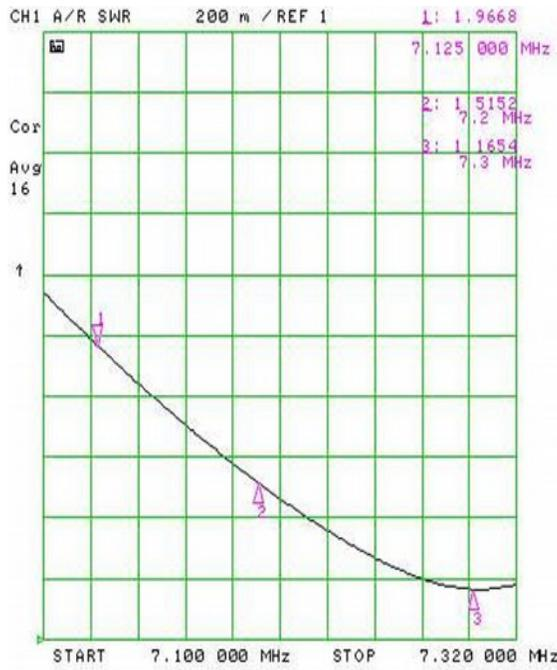

Figure 3
- To demonstrate how different instruments can provide different readings, I measured my 40m inverted V at 7.125, 7.2 and 7.3 MHz’s with a VNA, MFJ-259B and SWR meter shown by Figure 3.